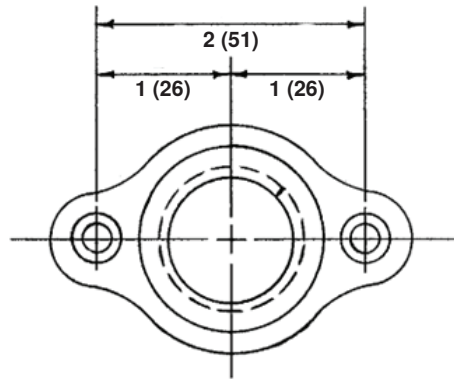

Figure 26. Waste Nut
1. Using waste nut (see Figure 26) as template, drill three holes—one 3/4-inch drain hole and two 1/4-inch fastener holes in furnace cabinet's bottom pan.